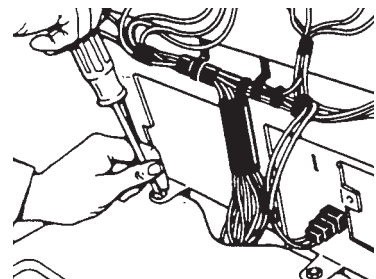

Fig. 4-11
2. Remove the three screws at the back of the dryer top. (Fig. 4-11)